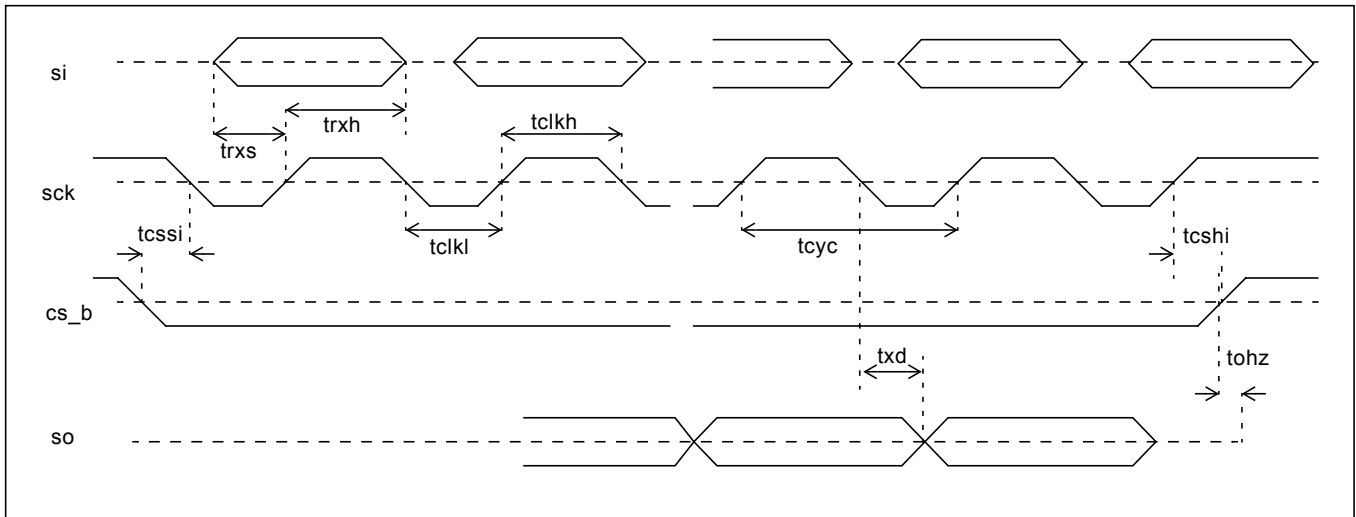

**Figure 31 - Output Timing Referenced To hpclkout0/clkout0**
**AC Electrical Characteristics\* - Outputs (see Figure 31).**